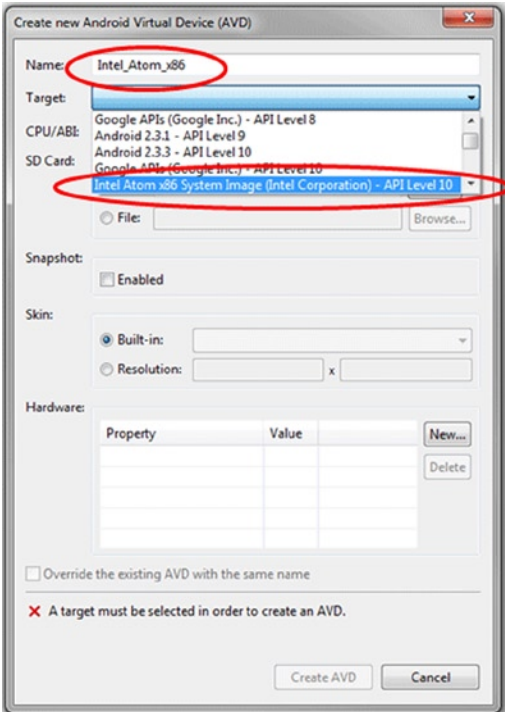

Figure 8-7. The Intel Atom x86 System Image as a Virtual Device Target
9. Select Intel Atom x86 System Image (Intel Corporation) – API Level 10 from the Target field drop-down list (see Figure 8-7).